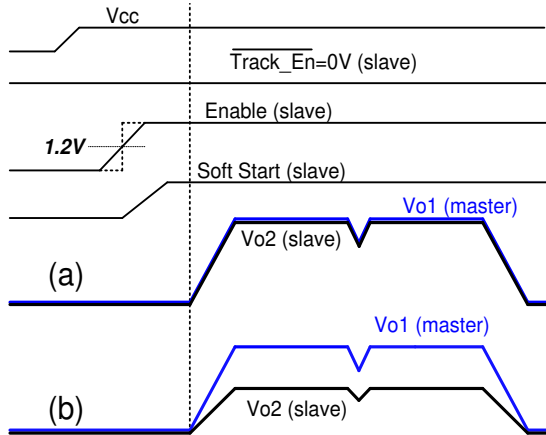

**Figure 26: Application Circuit for Simultaneous and Ratiometric Sequencing of two Manhattan devices**
Tracking and sequencing operations can be implemented to be simultaneous or ratiometric (refer to Figure 27 and Figure 28). Figure 26 shows typical circuit configuration for sequencing operation. With this power-up configuration, the voltage at the Vp pin of the slave reaches 0.5V before the Fb pin of the master. If  $R_E/R_F = R_C/R_D$ , simultaneous startup is achieved. That is, the output voltage of the slave follows that of the master until the voltage at the Vp pin of the slave reaches 0.5 V. After the voltage at the Vp pin of the slave exceeds 0.5V, the internal 0.5V reference of the slave dictates its output voltage. In reality the regulation gradually shifts from Vp to internal DAC2. The circuit shown in Figure 26 can also be used for simultaneous or ratiometric tracking operation if the  $\overline{\text{Track\_En}}$  pin of the slave is connected to LGND. Table 4 summarizes the required conditions to achieve simultaneous / ratiometric tracking or sequencing operations.
**Table 4: Required Conditions for Simultaneous / Ratiometric Tracking and Sequencing (Figure 26)**